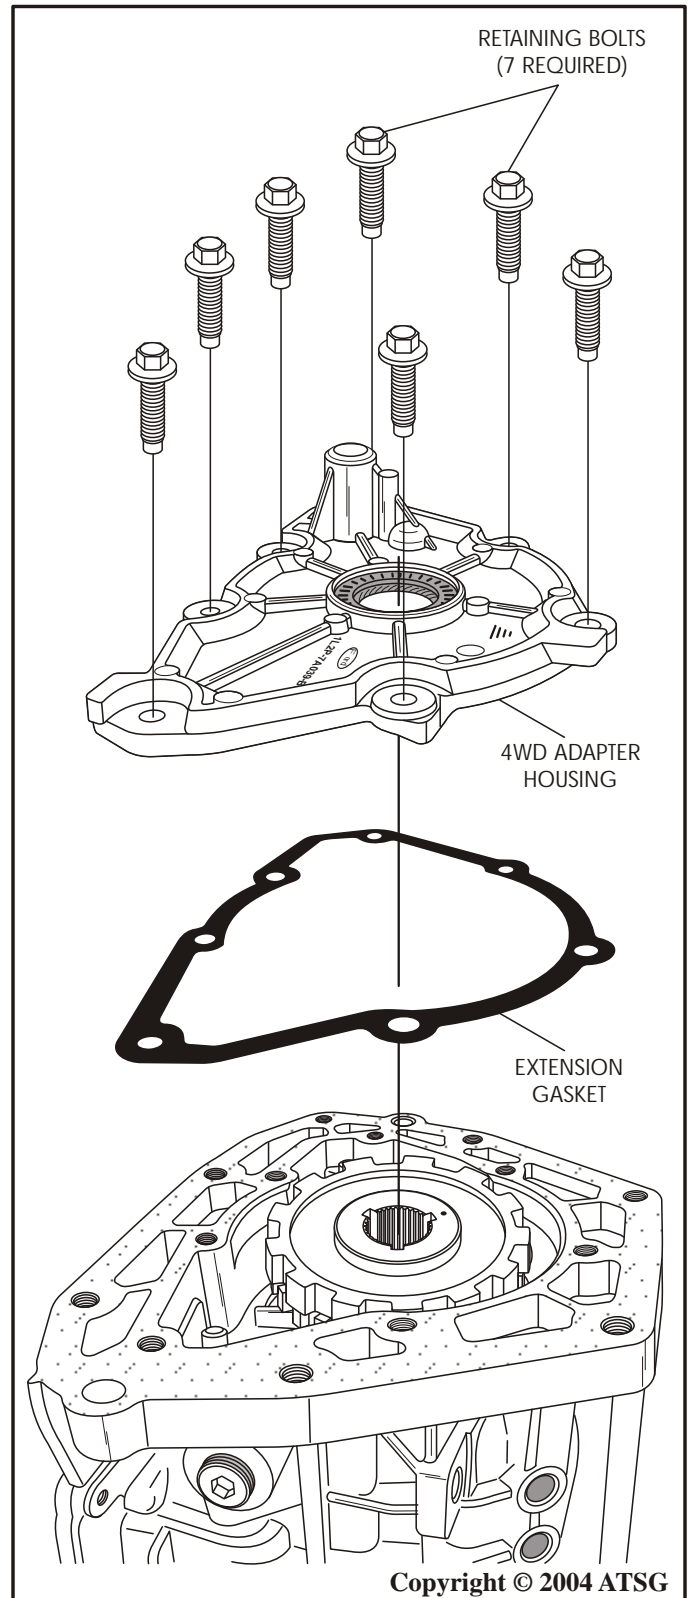

Figure 53
62. Remove the seven retaining bolts from 4WD adapter, as shown in Figure 53.
63. Remove the 4WD adapter housing, as shown in Figure 53, and set aside for the component rebuild section.
64. Remove and discard the 4WD adapter housing gasket, as shown in Figure 53.